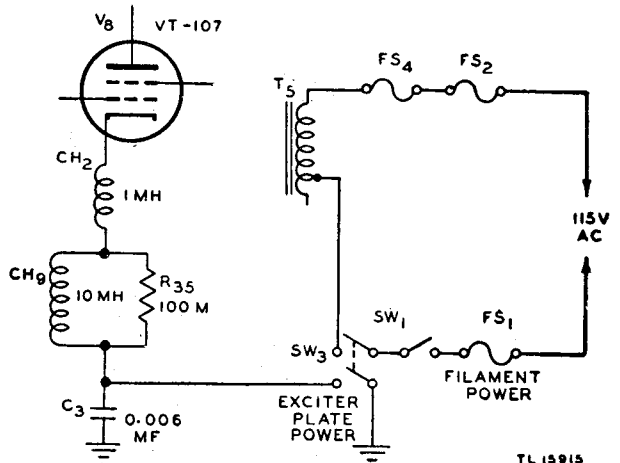

Figure 67. EXCITER PLATE POWER switch—functional diagram.
b. **EXCITER PLATE POWER SWITCH SW3** (fig. 67). **EXCITER PLATE POWER** switch SW3 is located on the front panel of the transmitter. When set to ON, one pair of contacts applies a-c power to the primary winding of transformer T5, and another pair of contacts grounds the cathode circuit of oscillator tube V8. This switch is used to apply plate power to the exciter stages during tune-up operations.